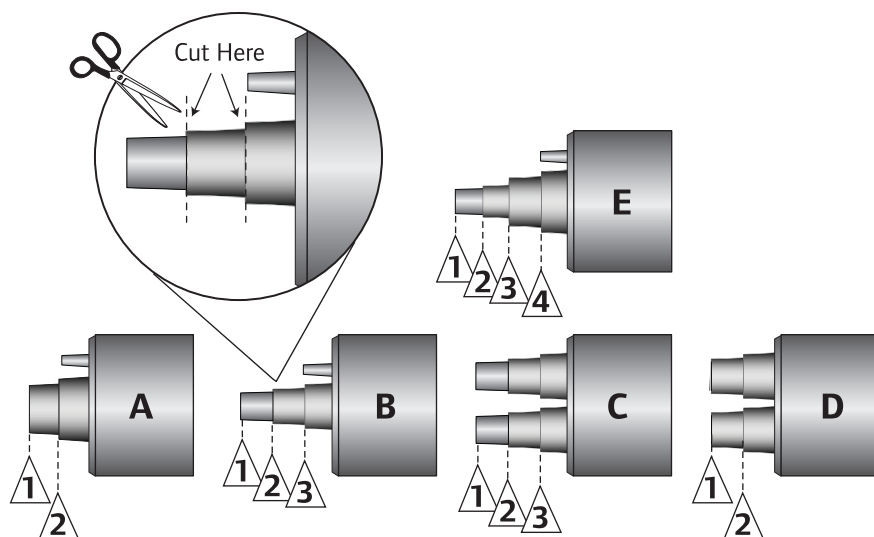

Figure 4-18: End Cap Cut Locations
3. Verify the service pipe size and cut off the unneeded portion of the Rubber End Cap with sharp scissors. Refer to **Table 4-2** along with **Figure 4-18** on **Page 30** to identify where to make the cut.